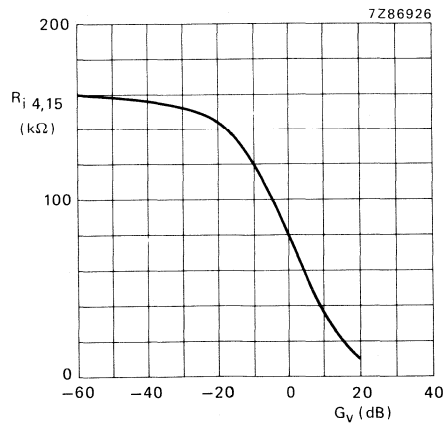

Fig. 4 Input resistance ( $R_i$ ) as a function of gain of volume control ( $G_V$ ). Measured in Fig. 1.
- Equation for input resistance (see also Fig. 4)
**CHARACTERISTICS** (see application circuit Fig. 4) $V_P = 5\text{ V}$ ;  $-V_{N1} = 5\text{ V}$ ;  $-V_{N2} = 17\text{ V}$ ;  $T_{amb} = + 25\text{ °C}$ , unless otherwise specified.